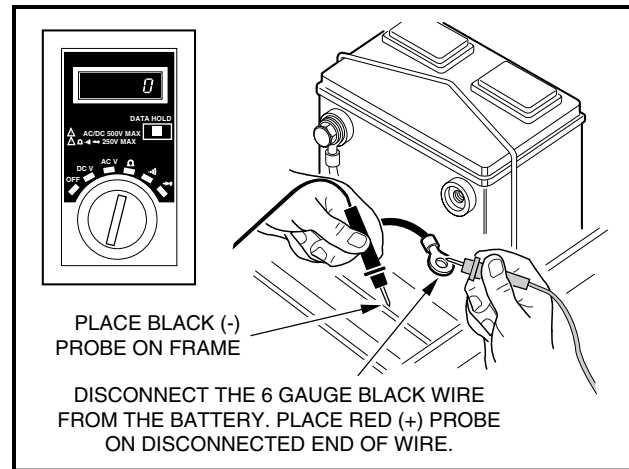

FIGURE 12-20
6. Set the multimeter to ohms ( $\Omega$ ). Place the red (+) probe on the unconnected end of the 6 gauge black wire, and place the black (-) probe on the frame of the vehicle. The reading should be continuity. If the reading is incorrect, check that terminals connections are clean and tight. If the connections are good and the reading is incorrect, repair or replace the wire (**Figure 12-20**).